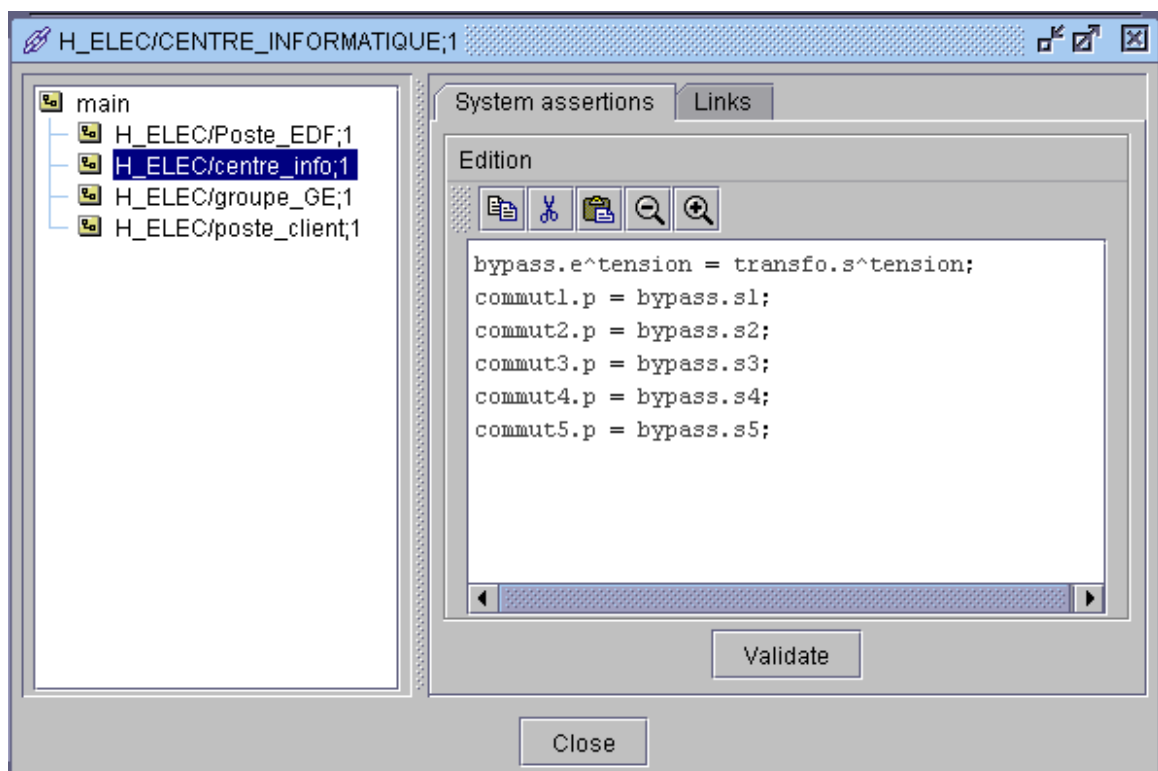

Figure 178 : System assertions tab
- ♦ Click on the **System assertions** tab; the following window (Figure 178) is displayed.